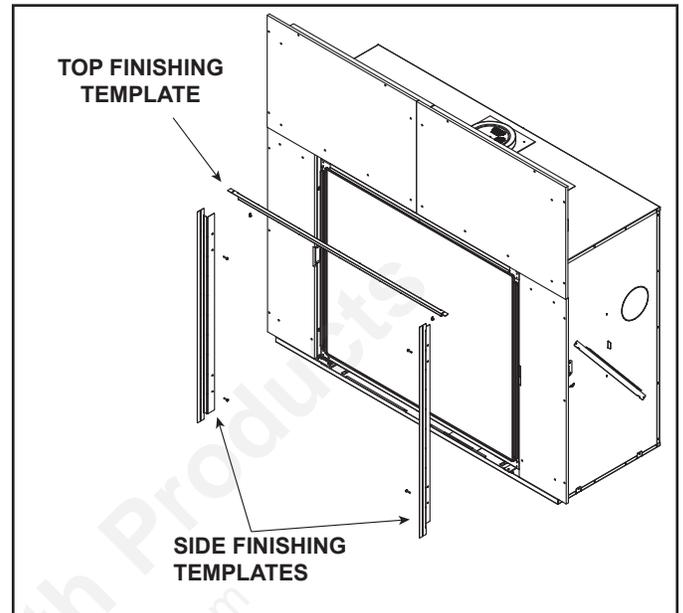

Figure 10.2 Top and Side Finishing Template Locations
3. Locate the four threaded inserts on the inside edge of the fireplace and secure the side templates with the Phillips screws provided. See Figure 10.2.